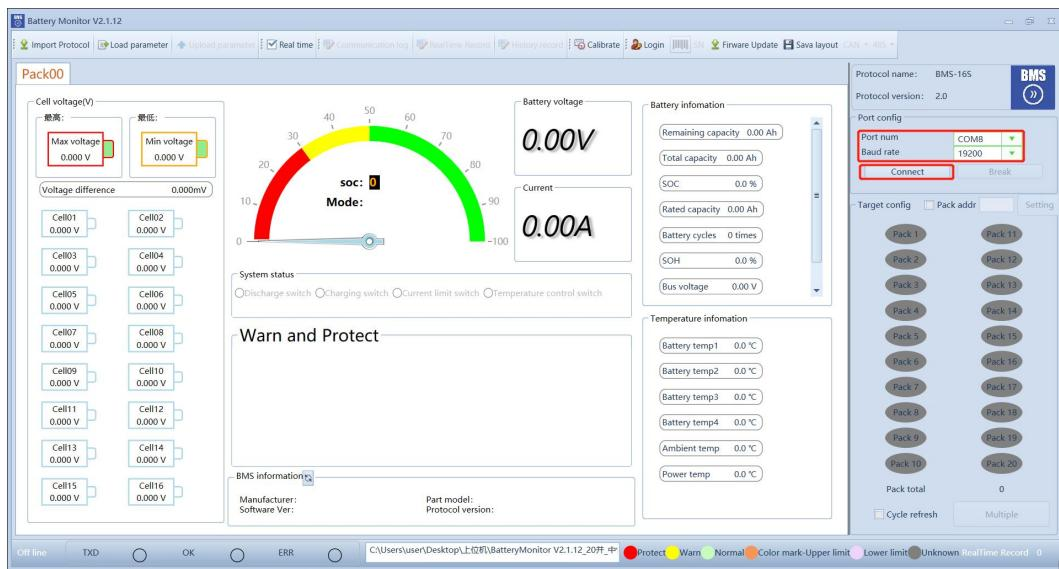

Figure 4-1
- 3) Click on the connection,Figure 4-1